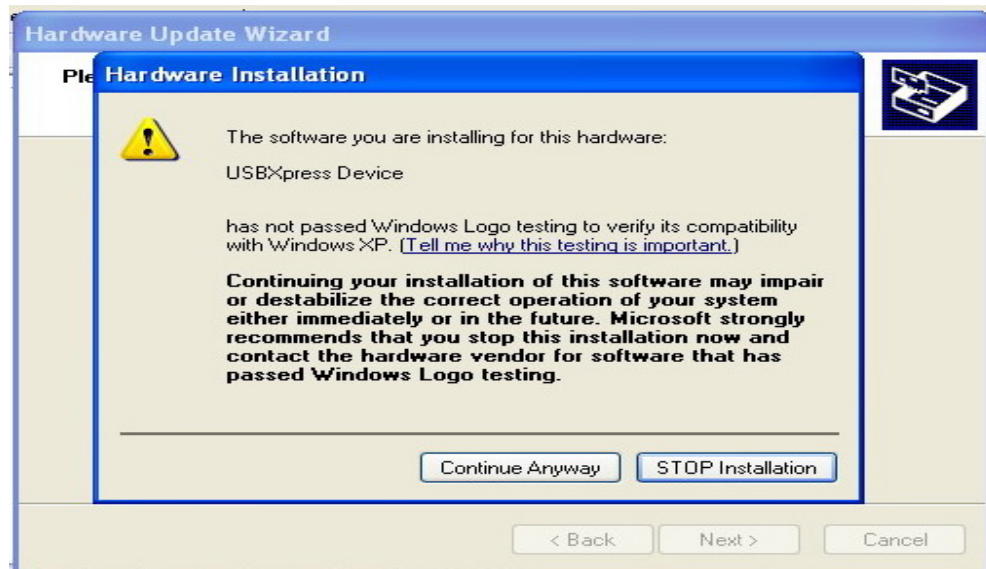

Figure 14
5.5 Next move, choose to still continue. Figure 14